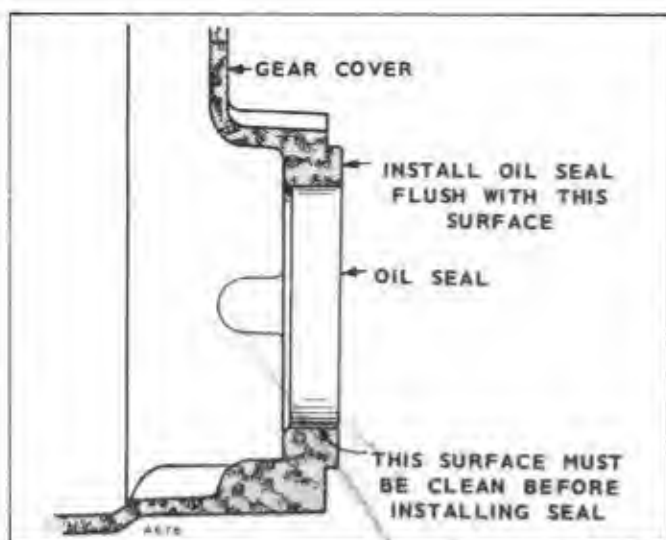

Figure 3. Gear Cover Oil Seal
**Gear Cover Oil Seal:** Replace the oil seal if damaged or worn. Drive the old seal out from inside the gear cover. Lay the cover on a board so the seal boss is supported. Using an oil seal driver, insert the new seal from the inside with rubber lip toward outside of gear cover (open side of seal inward) and drive it flush with the outside surface. During gear cover installation, use the driver to protect the oil seal. See Fig. 3.